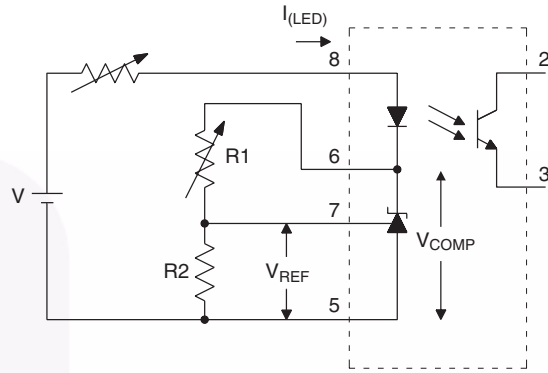

Figure 2. $\Delta V_{REF}/\Delta V_{COMP}$ Test Circuit
- The dynamic impedance is defined as $|Z_{OUT}| = \Delta V_{COMP}/\Delta I_{LED}$. When the device is operating with two external resistors (see Figure 2), the total dynamic impedance of the circuit is given by: